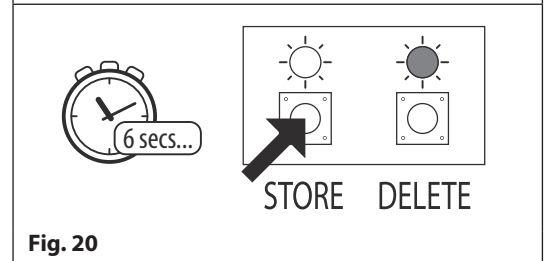

Fig. 20
1. Press and hold down the store button for approximately 6 seconds until the green store LED switches **OFF** and the red delete LED stays **ON**, see **Fig.20**.